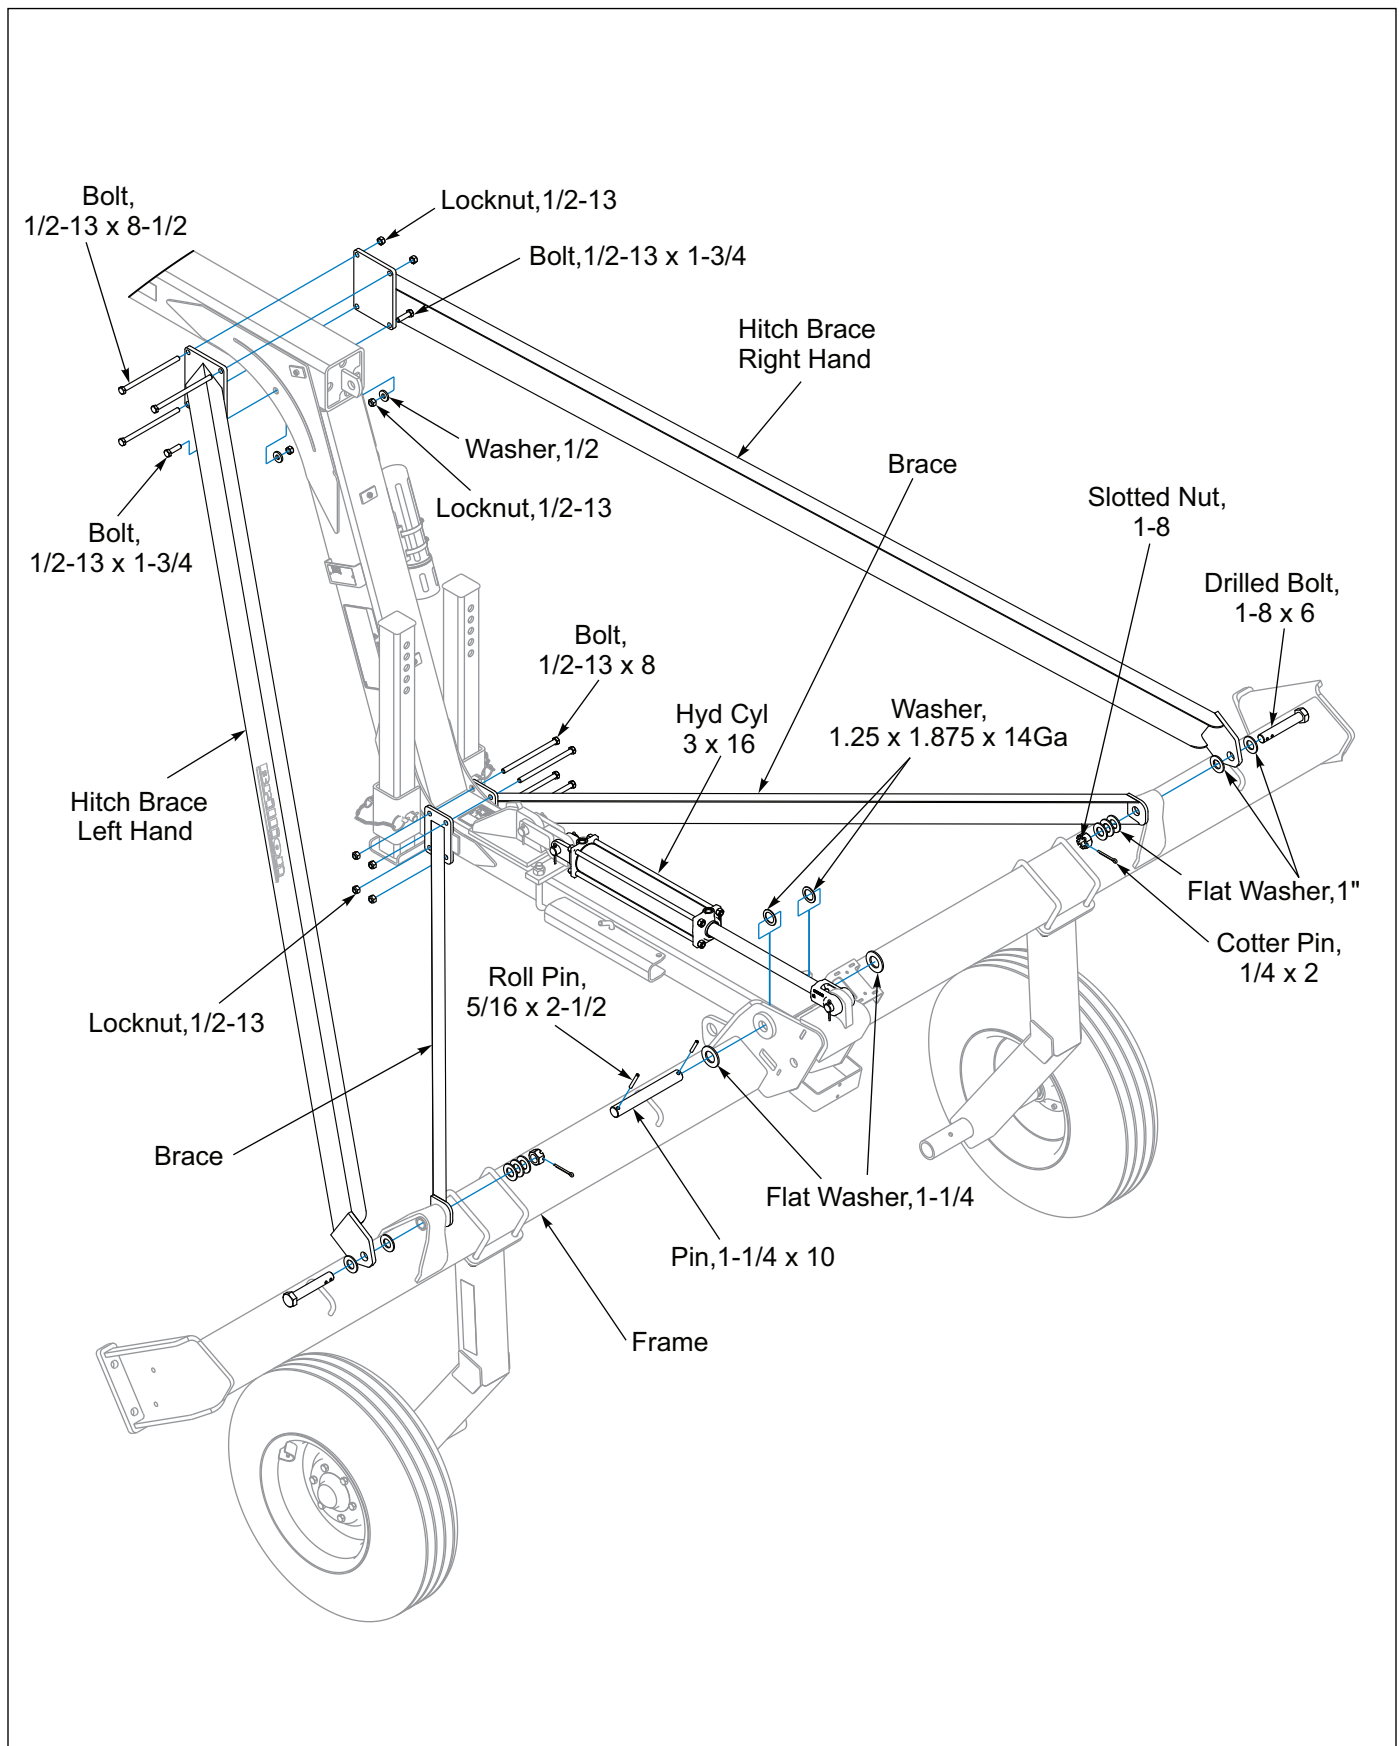

Figure 2-15: Bridge Hitch: Brace Installation, 10FT - 16FT Models
2. Place one 1-1/4 x 1-7/8 Machinery Bushing on each side between the Bridge Hitch and the Hitch Plates. Line up the holes and insert 1-1/4 x 10 Pin, secure with Flat Washers and 5/16 x 2-1/2 Roll Pins. **See Figure 2-15.**
Attach rod end of the 3 x 16 Hydraulic Cylinder to the Pulverizer Frame Lug with vendor supplied hardware. It maybe necessary to extend the cylinder rod or raise the frame slightly to make this connection. **See Figure 2-15.**